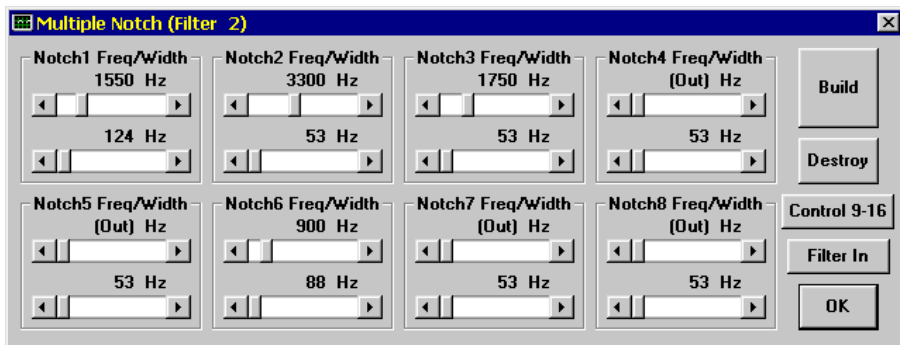

Figure 4-25 Multiple Notch Filter Control Window
*Figure 4-25 depicts the control window for notches 1 through 8. A second window for 9 through 16 is button accessed.*